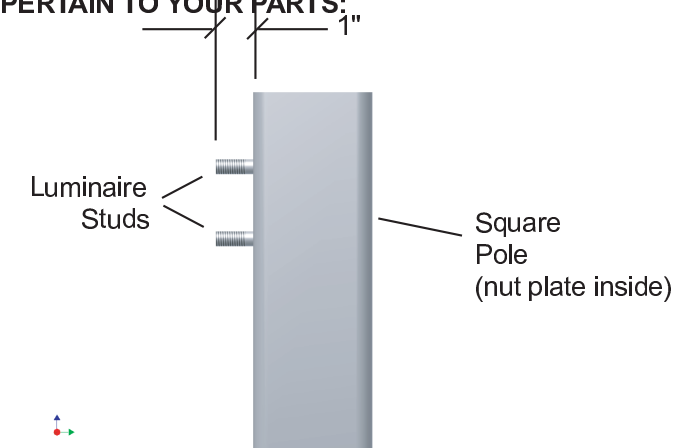

FIGURE 4
A. DIRECTLY TO SQUARE POLE - FIGURE 4
3. With nut plate inside pole, thread luminaire mounting studs thru top and bottom pole holes, then into nut plate. See Figure 4.